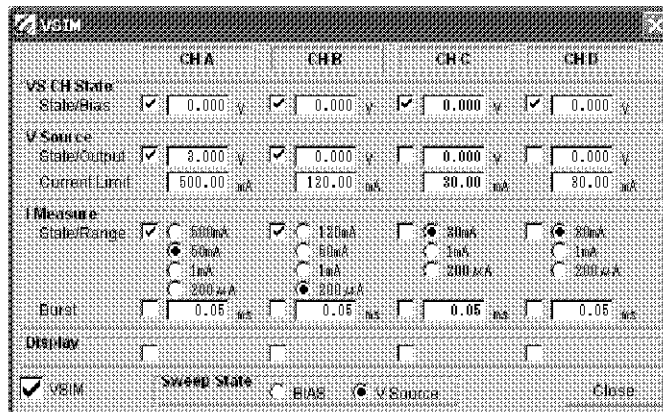

Figure 11-1 Sending the EGSM
3. Set channel A to ON (3 V) and channel B to OFF (0 V) as shown in Figure 11-1 according to the settings in Table 11-3.